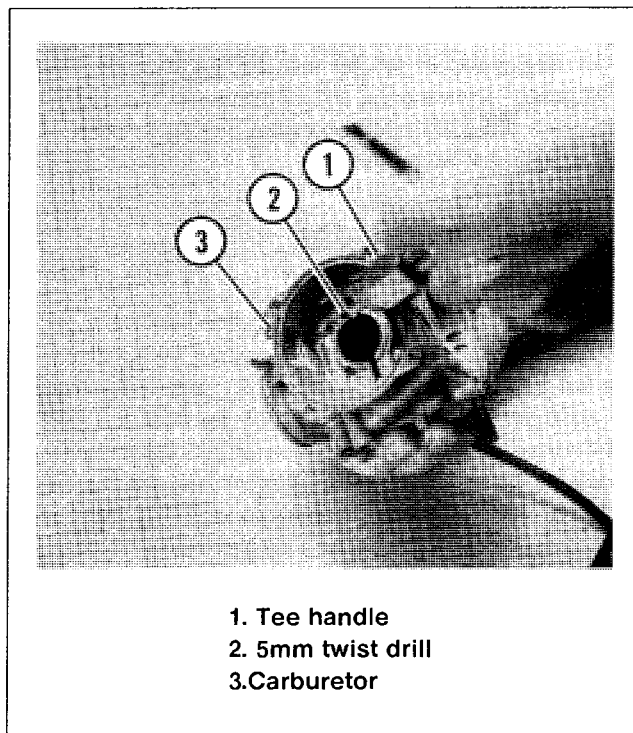

Figure 5. Enlarging Starter Passage
3. See Figure 5. Clamp 5mm drill bit (2) into tap handle (1). Support carburetor at angle with manifold end of carburetor downward to prevent any metal particles from getting into carburetor.